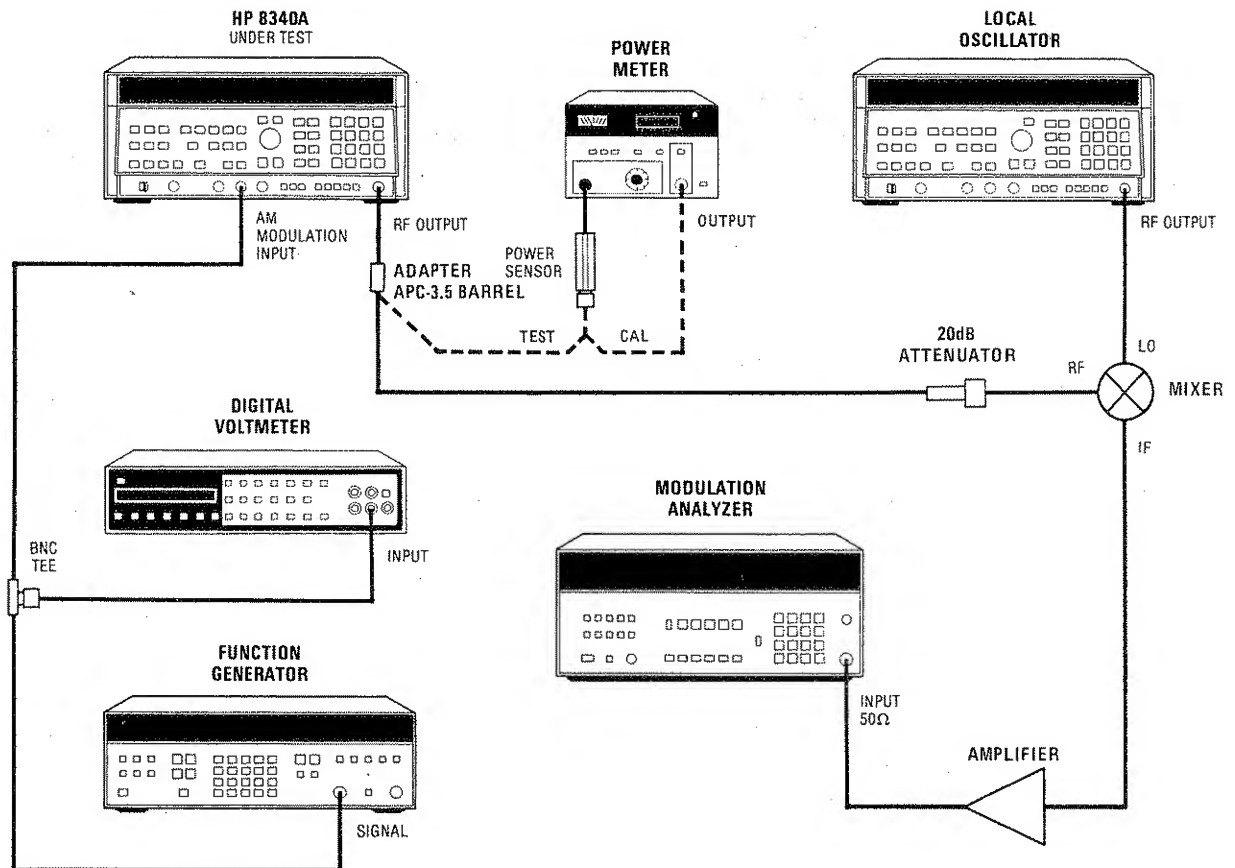

Figure 4-19. Amplitude Modulation Test Setup
1. Connect equipment as shown in Figure 4-19. Connect the mixer LO port at the local oscillator 8340A RF output. Connect the 8485A Power Sensor to the power meter. Allow at least 30 minutes warm up time. Set the power meter's calibration factor switch to